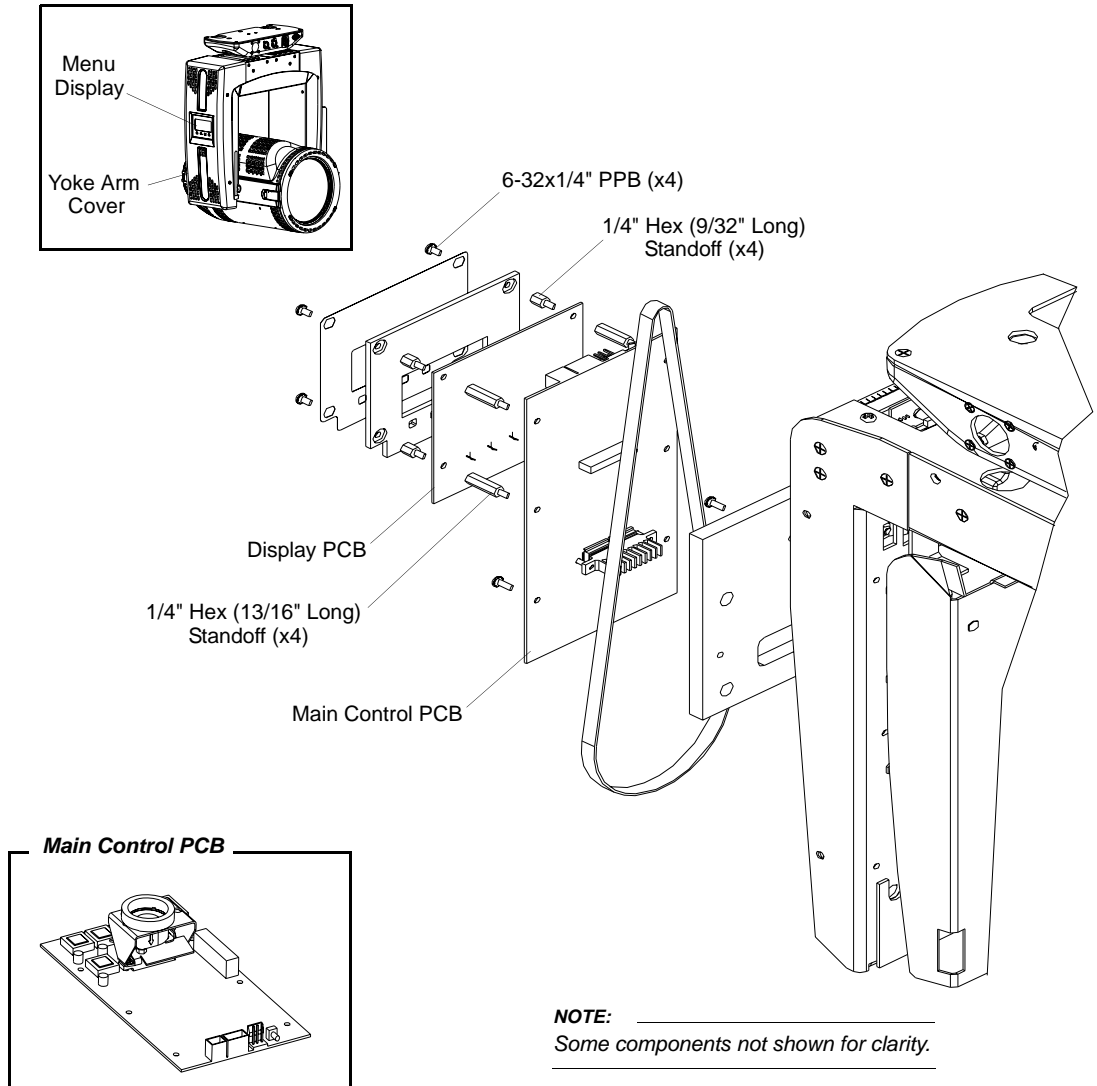

Figure 16: Main Control PCB/Fan Replacement
- Step 6. Remove four 1/4" hex (13/16" long) standoffs as indicated in Figure 16.